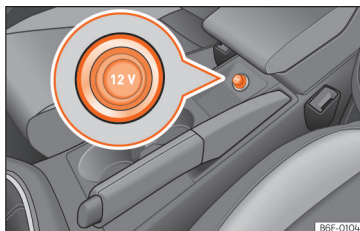

Fig. 121 Front power socket.
- Remove the plug from the socket located in the centre console »»» **Fig. 121**.